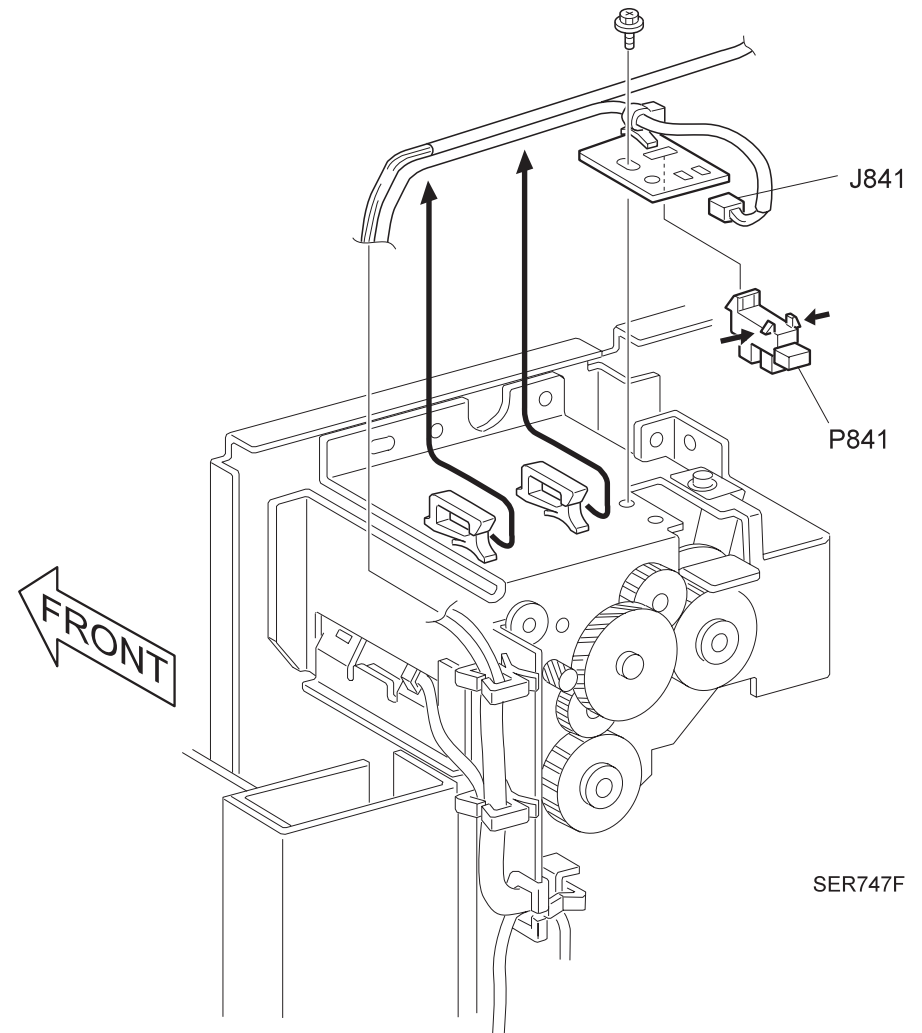

Figure 3-86. Eject Clamp Sensor
1. Place the Eject Clamp Sensor against the Eject Clamp Sensor Bracket as shown in the Figure 3-86 and push the latches into the bracket.